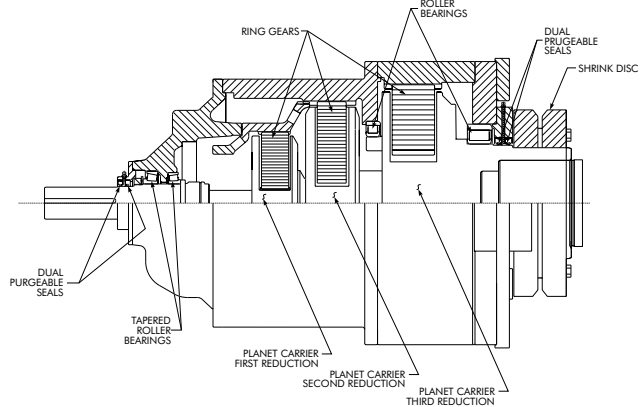

Figure 2.3.1b
2. Attach the third nut loosely onto each cap screw to hold the mounting plate/caps crew assembly onto mounting brackets; reference Figure 2.3.1b.